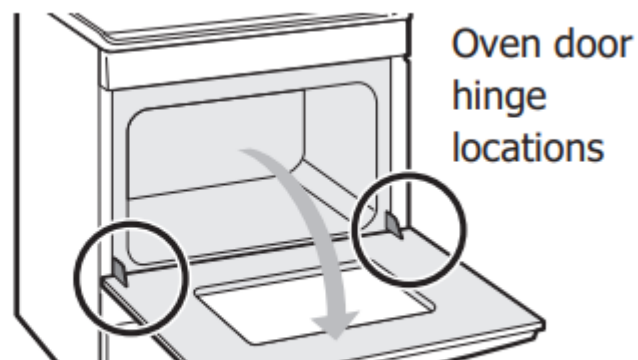

Figure 20: Door hinge location
1. Open oven door completely, horizontal with floor (See Figure 20).
2. Fully open the oven door, horizontal with floor (See Figure 20).